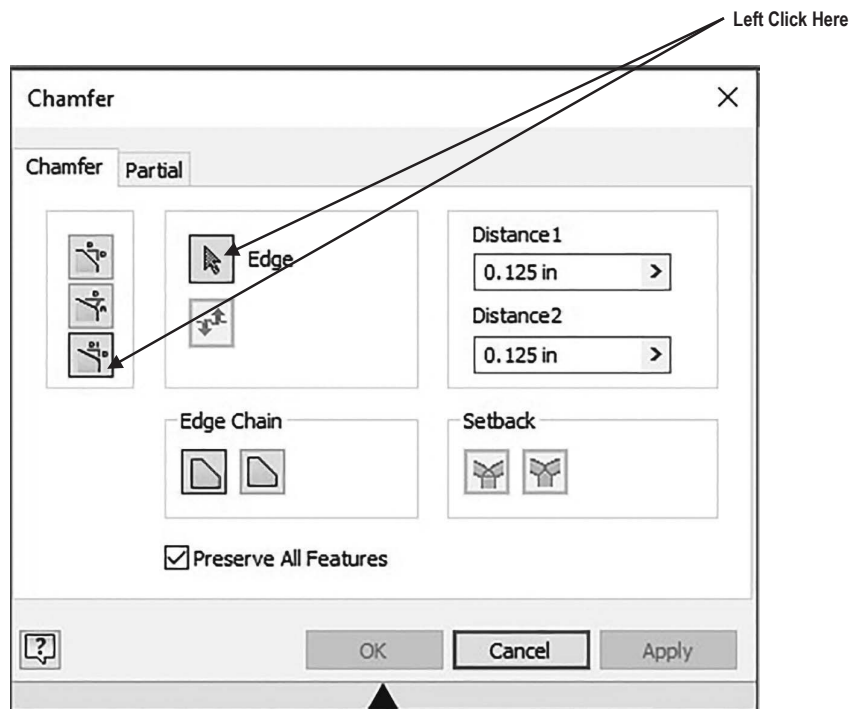

Figure 3
5. After selecting **Chamfer**, the Chamfer dialog box will appear. Left click on the **Edge** icon. Left click on the "Two Distance Chamfer" icon as shown in Figure 3.